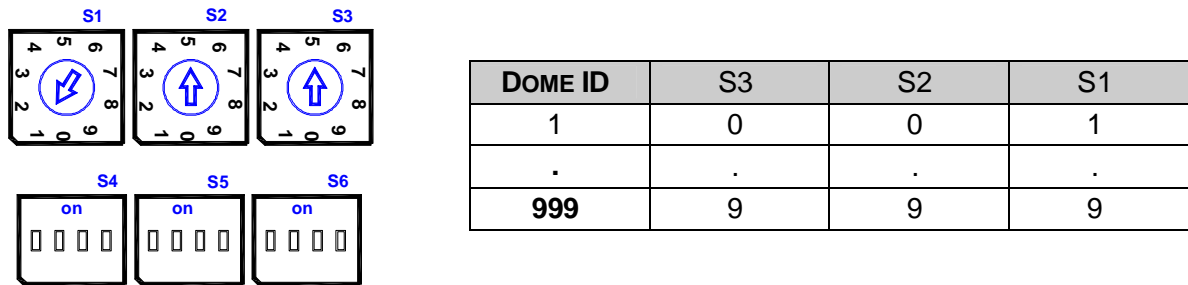

Figure 6– Setting Dome Camera Address (ID) and Protocol
Refer to Figures 6 for setting the dome camera address (ID) and protocol selection.